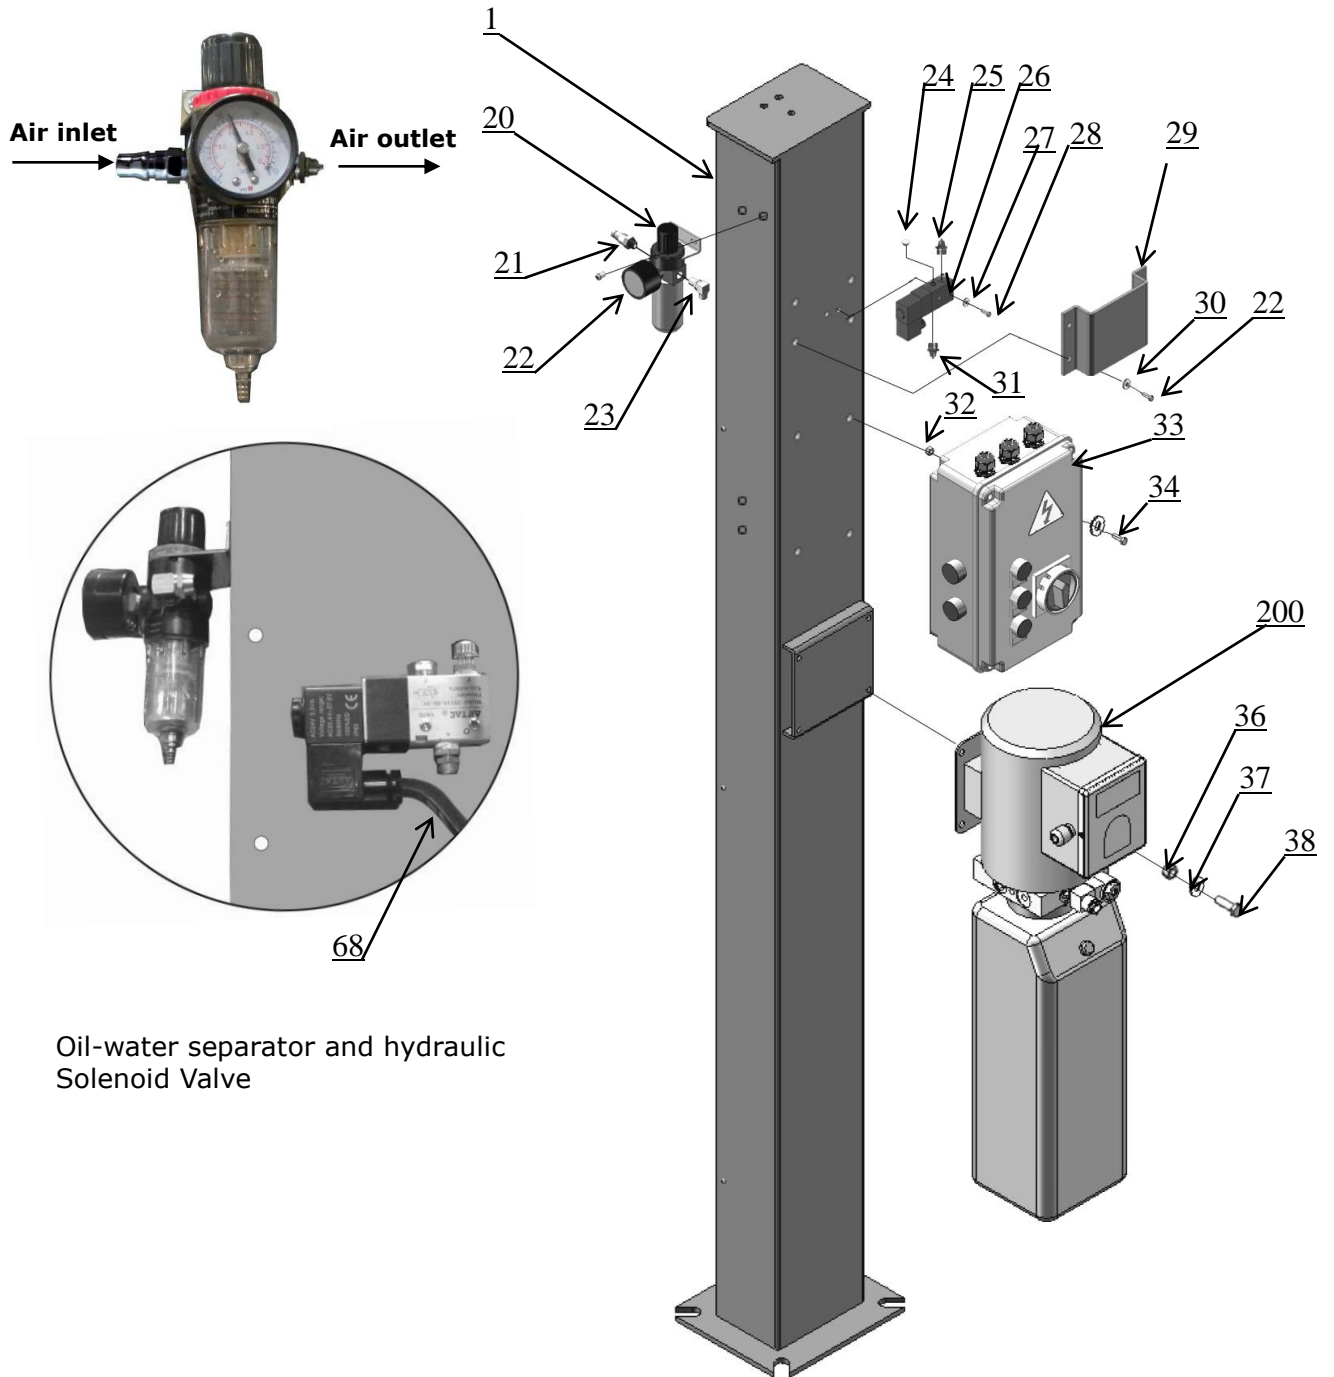

Fig. 24
1. For Electric control air-operated four post lift (See Fig. 24).